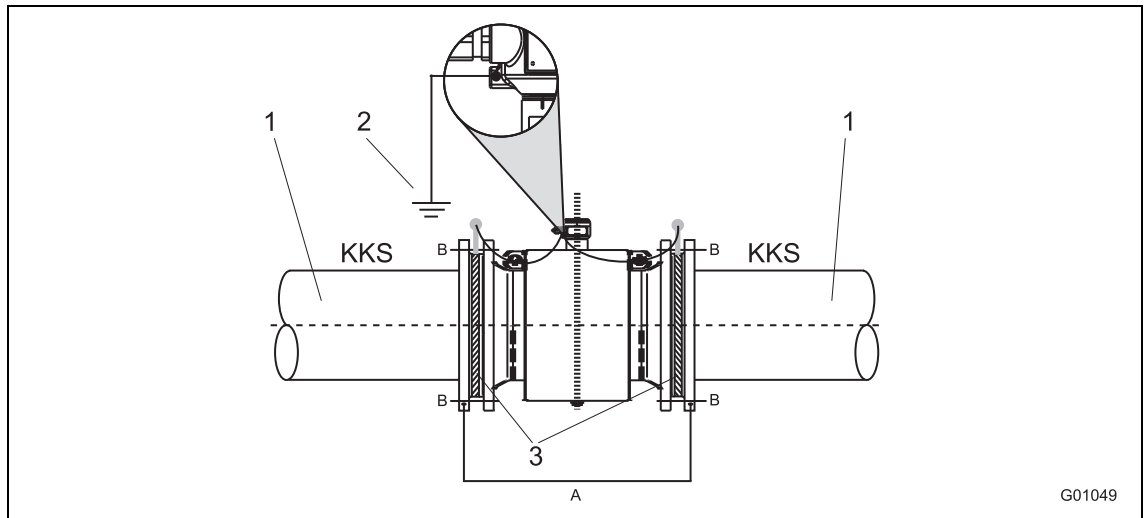
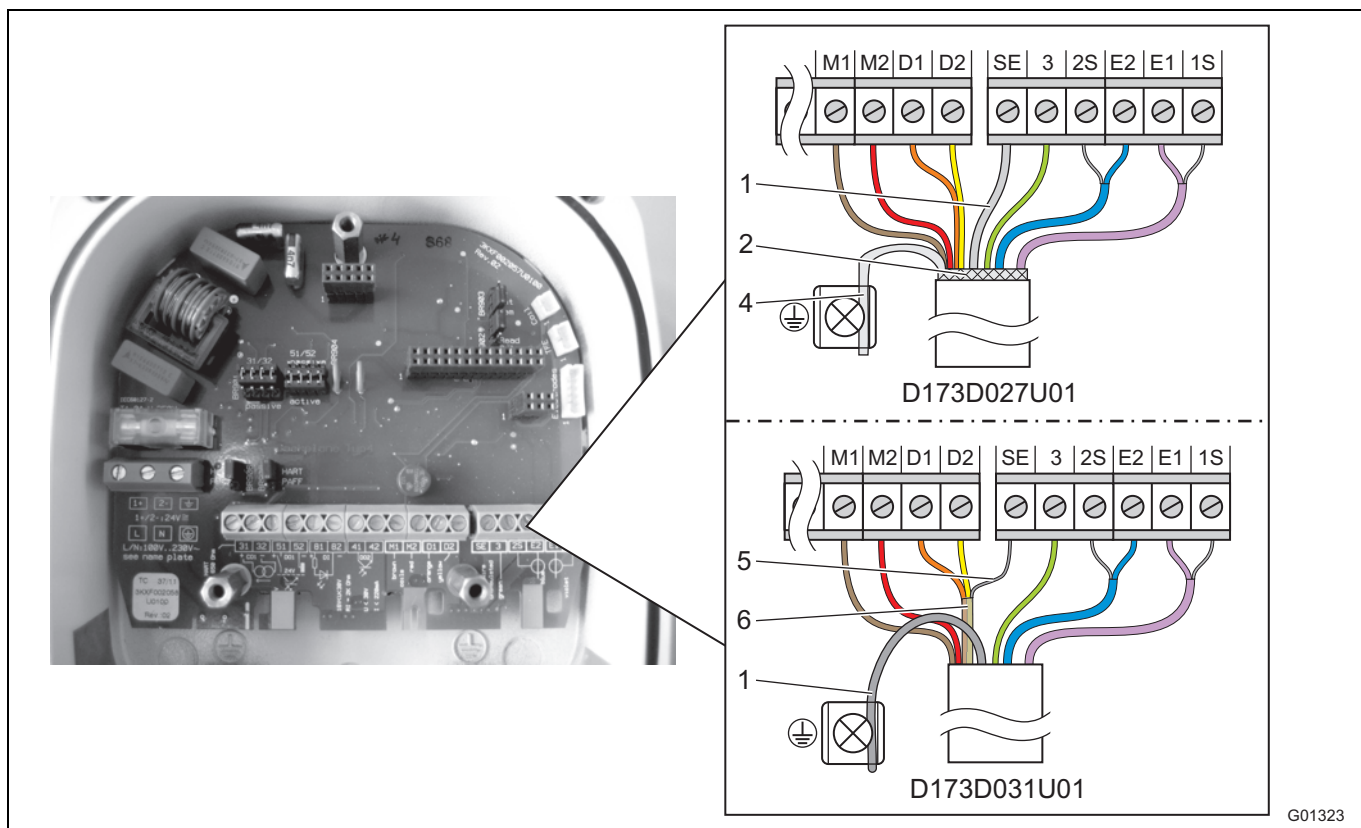

Fig. 31: Flowmeter sensor with grounding plate and functional ground
Fig. 37: Transmitter side, dimensions in mm (inch)
- When installing an EMF in pipes with insulating inner lining and free from foreign matter, it should be insulated with grounding plates on the upstream and downstream side. The CCP potential is diverted. The grounding plates upstream and downstream of the EMF are connected to functional ground (Fig. 37 / Fig. 31).
Prepare the cable end on the transmitter side as shown in Fig. 37.
- Connect all other wires as shown in Fig. 37.
Connect the cable end on the flowmeter sensor side as shown in Fig. 37.